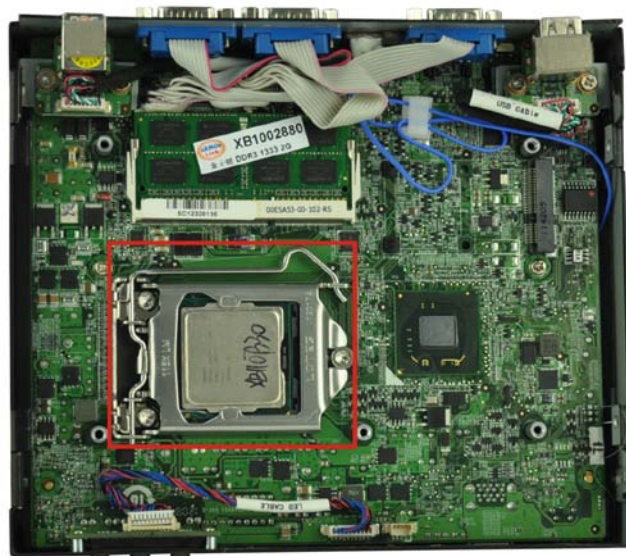

Figure 3-5: CPU Socket Location
- Step 3:** Locate the CPU socket (**Figure 3-5**).
Step 1: Locate the reset button on the rear panel (**Figure 3-5**).